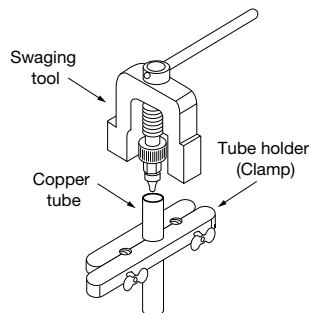

Figure 10
- Expand the copper tube by using a swaging tool set (Figure 10).